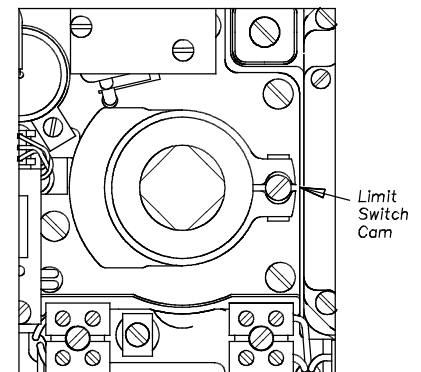

FIGURE 6b. DIGITAL EL SWITCH STRIKER METAL COUPLING. OPEN BOX, TOP VIEW.
5.2.2 Metal coupling cams are adjusted by releasing the screw shown in figure 6b, moving to desired position and re tightening. Set the lever cam first. Ensure the clamp section of the cam does not strike a switch at any part in the actuator's travel.